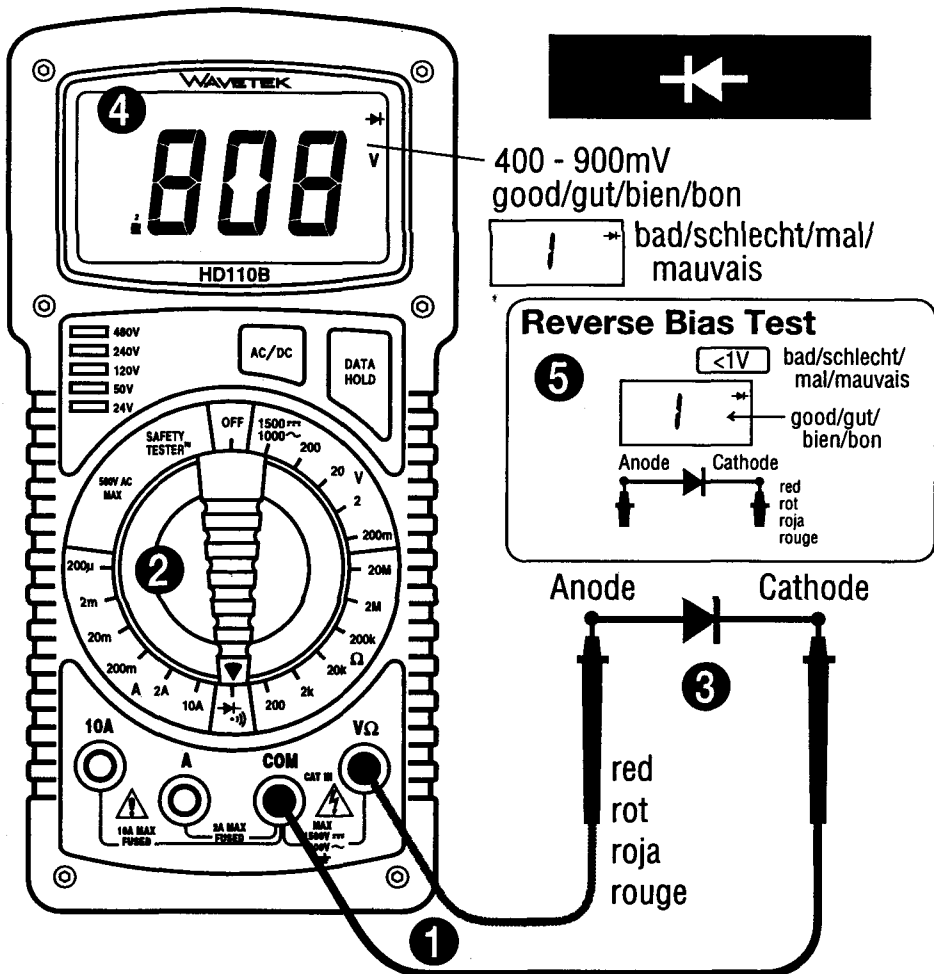

Fig. 5
DIODE AND CONTINUITY TEST (See Fig. 5)
The diode test measures the voltage drop across a diode junction. ① Connect the test leads as shown in figure 5. ② Set the Function/range switch to $\rightarrow| \leftarrow$. ③ Apply probe tip of red lead to the anode and of black lead to the cathode of the diode. ④ The meter's display indicates the forward voltage drop (approx. 0.6V for silicon diode or 0.4V for germanium diode). An open diode is indicated by "1". ⑤ Reverse test lead connections to the diode to perform a reverse bias test. "1" indicates a good diode. **Notes:** "1" for both reverse and forward bias tests indicates an open diode. A low voltage reading for both bias tests indicates a shorted diode. If the diode is shunted by a resistor of 1000 ohms or less, it must be removed from the circuit before taking the measurement. Bipolar transistor junctions may be tested in the same manner described above as emitter-base and base-collector junctions are diode junctions.
D • Dioden- und Transistortest (Siehe Fig. 5)
E • Comprobación de diodos y transistores (vea fig. 5)
F • Test de Diodes et de Transistors (voir fig. 5)